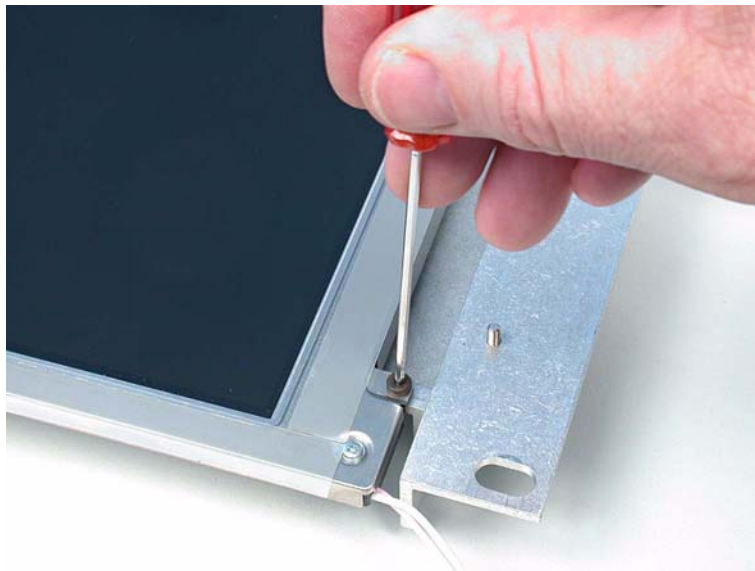

Figure 11-143. Removing the LCD from its brackets
10. Remove the LCD from the two brackets, by removing the black hexagonal-drive (Allen) screws on the LCD. (Figure 11-143.)